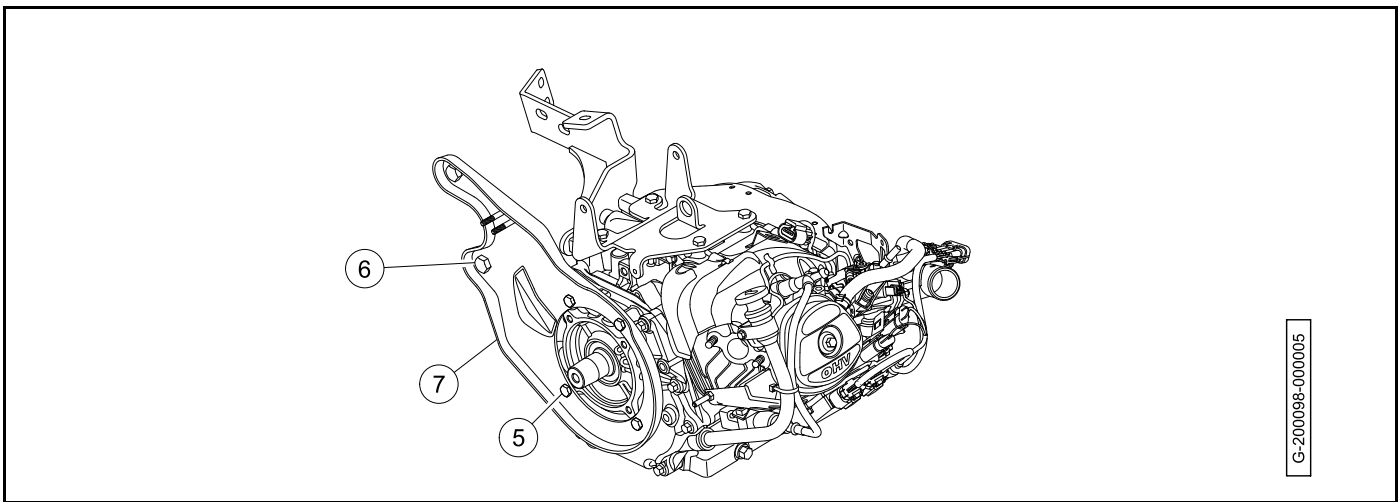

Figure 21-7 Clutch Plate Installation
5. Install the clutch plate (7) with bolts (5 and 6) (**Figure 21-7, Page 21-6**). Tighten the bolts (5) to 27 ft·lb (36 N·m). Tighten the bolts (6) to 50 ft·lb (68 N·m).